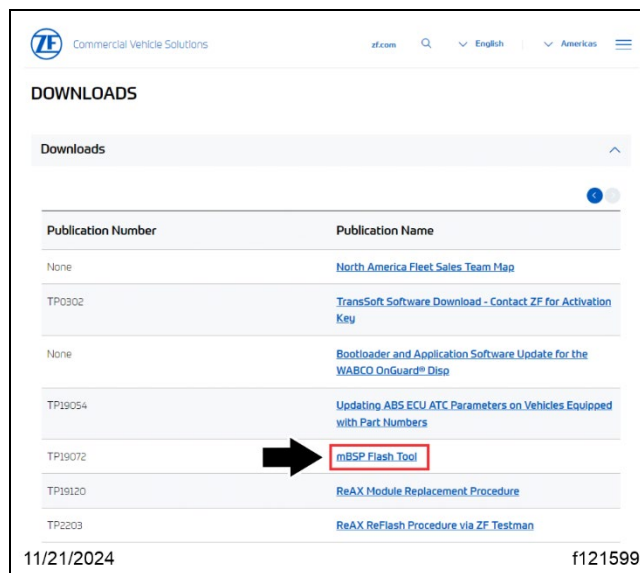

Fig. 24, mBSP Flash Tool Download Link
- 5.2. Scroll down to the 'Downloads' section towards the bottom, and select 'mBSP Flash Tool.' See **Fig. 24**.